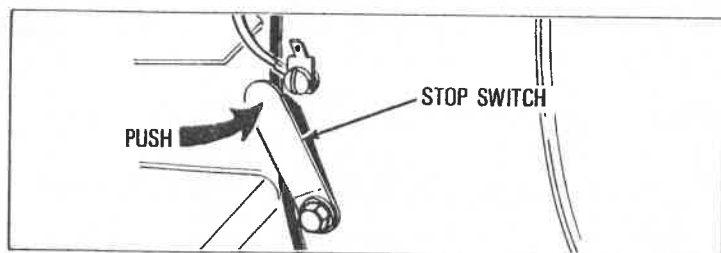

Figure 5
- ① Move equipment control or any ignition stop switch on engine to "STOP" or "OFF" (see equipment manufacturer's instructions).
- ② Push stop switch (if so equipped - see Figure 5) and hold it down until engine is completely stopped.